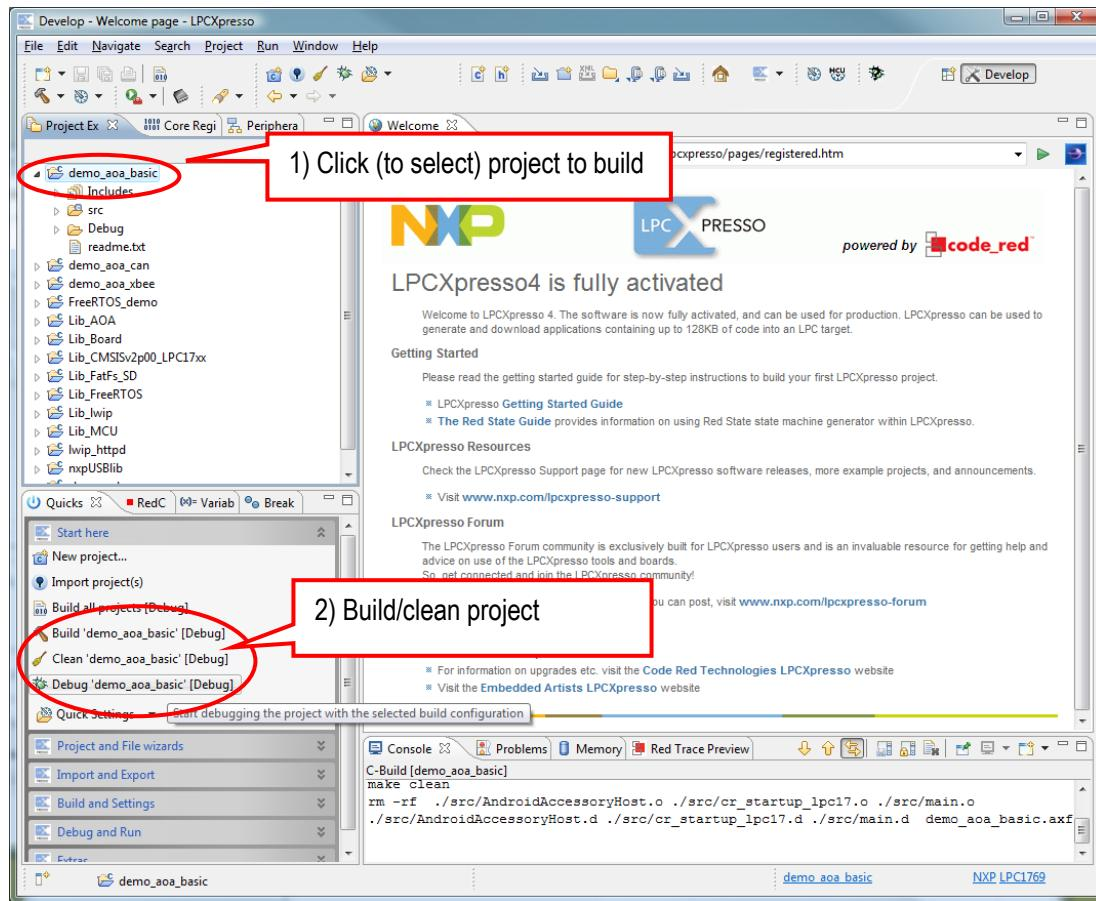

Figure 25 – LPCXpresso IDE Build Project
8) Click Build in the Quickstart Panel (under Start Here). See Figure 25